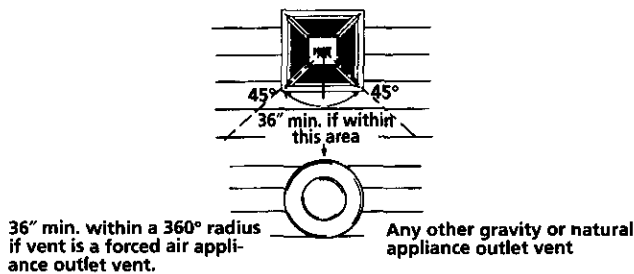

Figure 5
- 36" minimum from any outlet vents when directly below or 45° to either side of center line. Figure 5, page 12.
- 36" minimum in all directions from any other forced air appliance outlet vent. Figure 5, page 12.